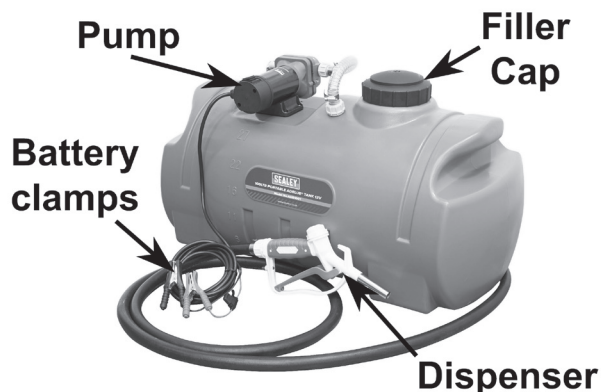

fig.1
- 4.1.1. Move the empty tank assembly using the hand holds moulded into the sides of the unit (fig.1).
- 4.2.1. The tank is filled by unscrewing the filler cap (fig.1) in an anticlockwise direction. Refit the filler cap immediately after filling.
4.2.2. Ensure that the filler cap (fig.1) is closed before moving.
4.3.2. Connect the battery clips (fig.1) to the 12V battery, observing correct polarity (red clamp to +ve terminal, black clamp to -ve terminal).